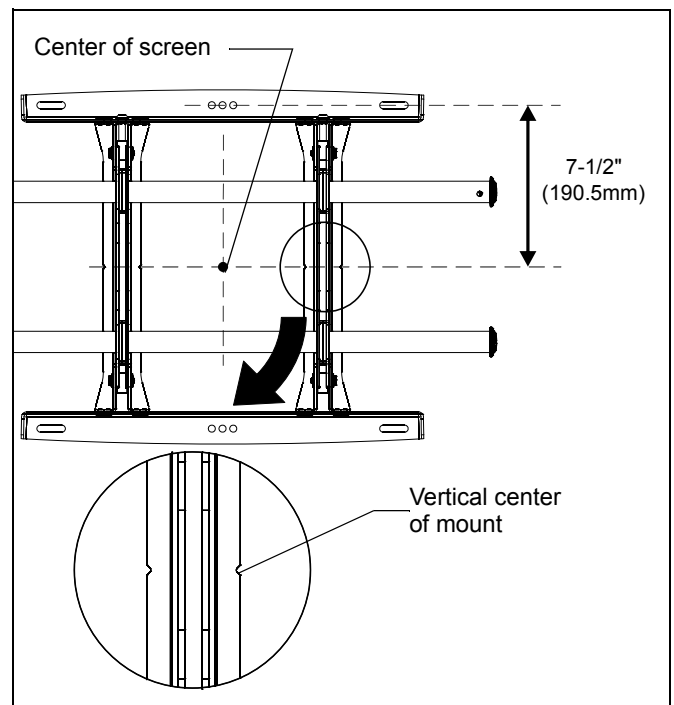

Figure 4
3. Line up the notches on mount (R) with center of screen marking to determine vertical center. (See Figure 4)